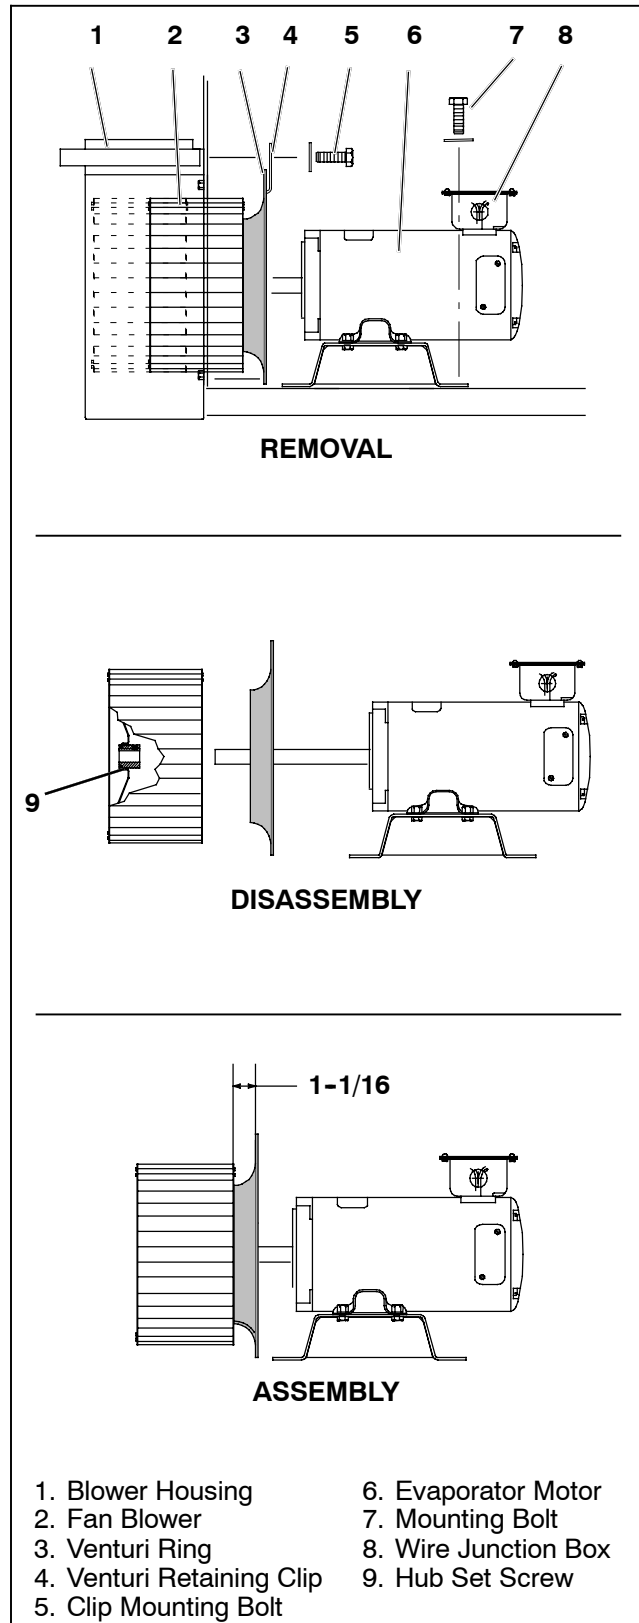

Figure 4-17. Evaporator Fan Blower Removal
- Remove motor mounting bolts (refer to Figure 4-17) to the bottom channel.
- To reassemble, apply an anti-seize compound to the motor shaft and reverse the above procedure. Position blower 1-1/16 inch from inside blower edge to venturi ring (See Figure 4-17).